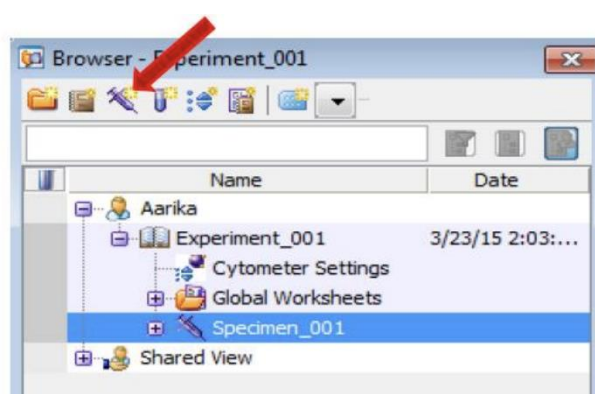

Figure 2 - Browser Window in FACSDiva
2. In the **Browser Window**, click the Specimen icon to create a specimen within the new experiment (see Figure 2).